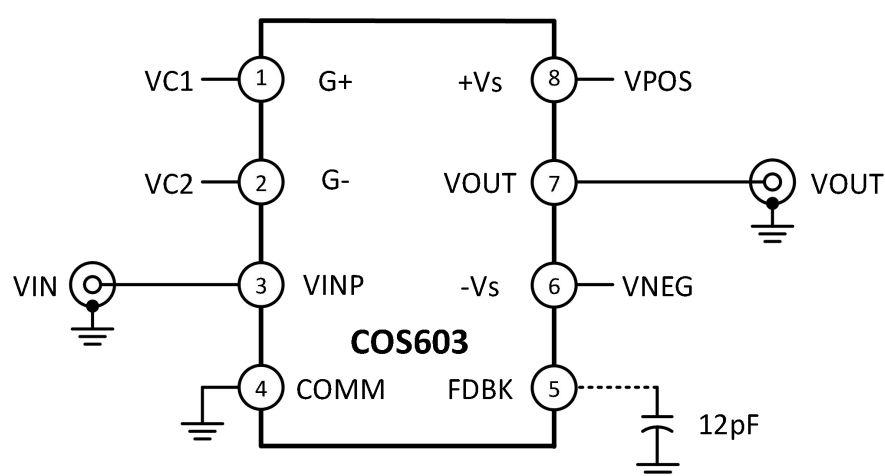
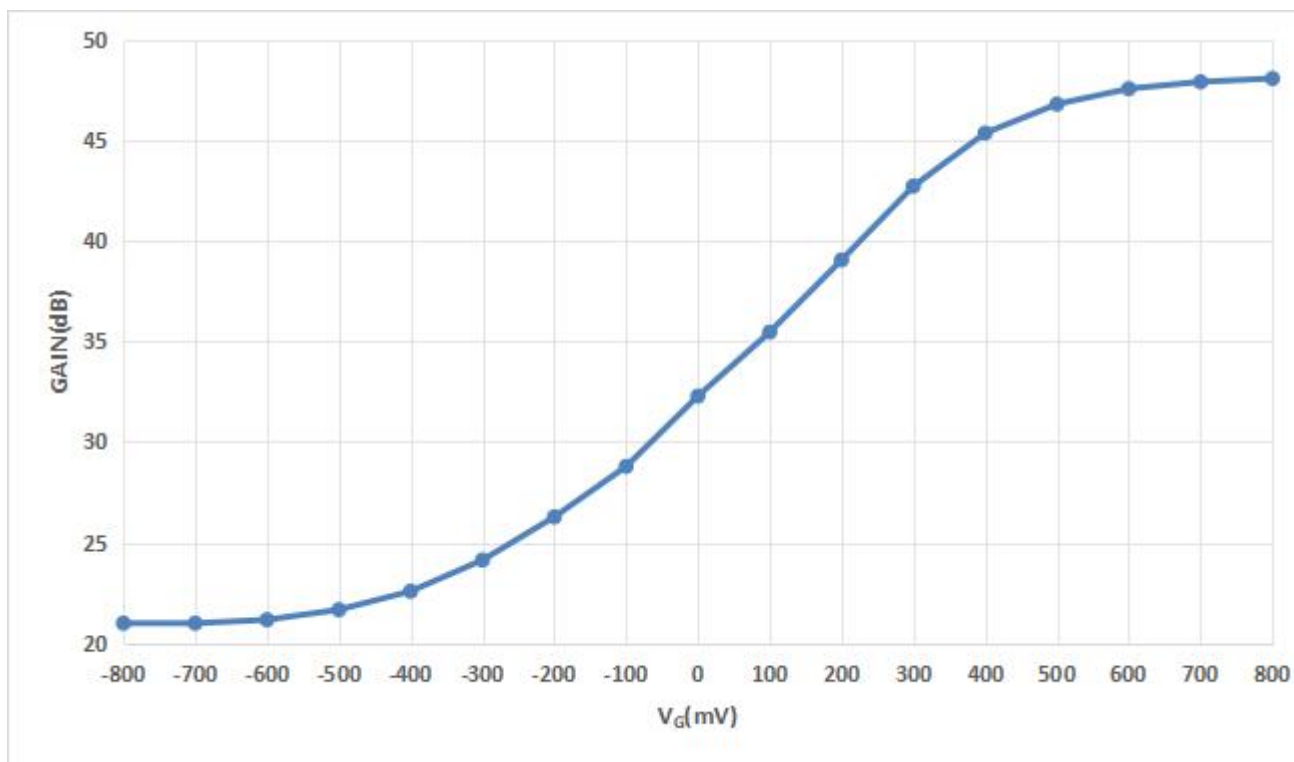
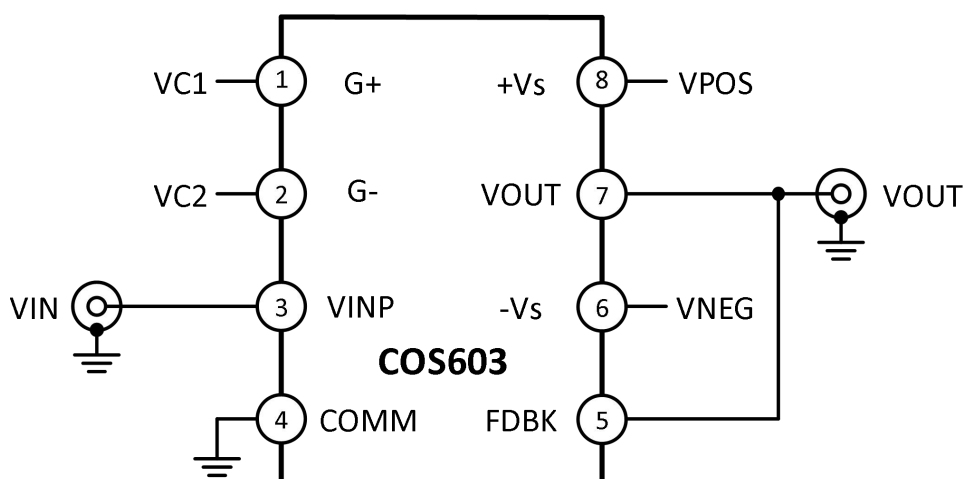
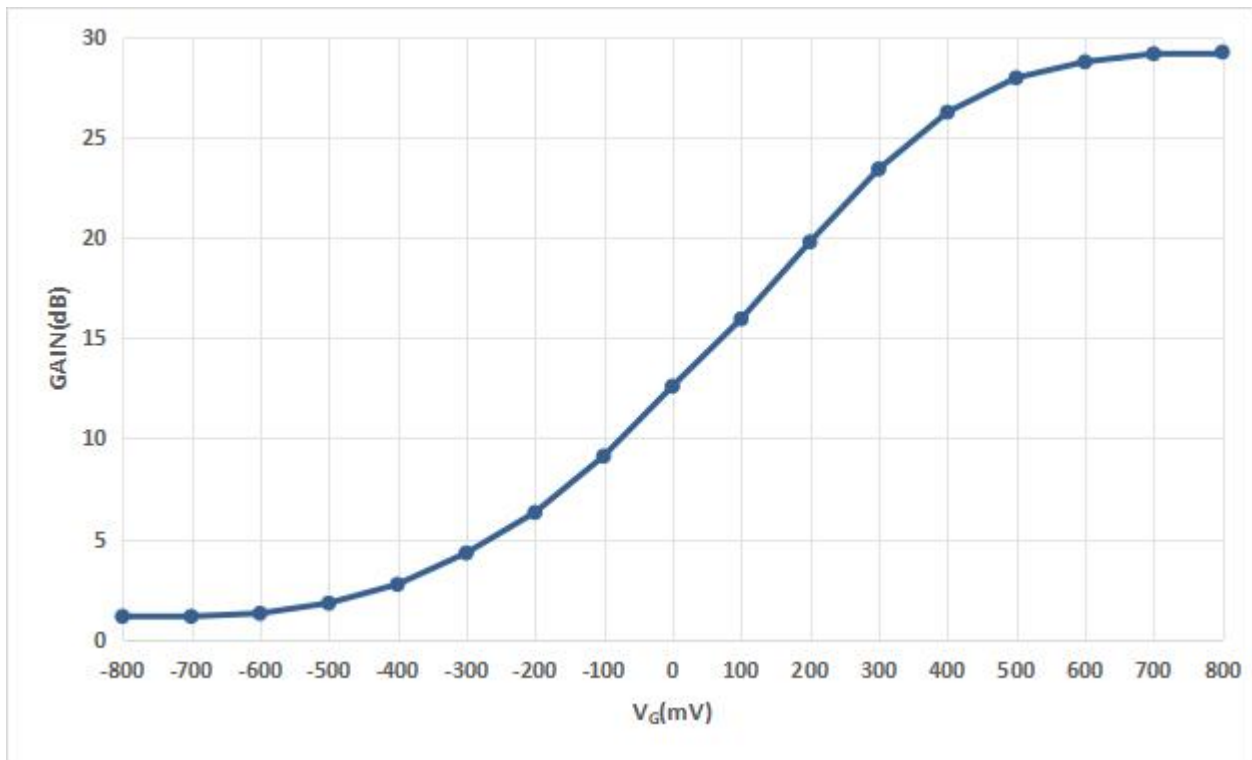

Figure 2. The High Gain Mode (default mode),
Figure 3. Gain vs. V_G for High Gain Configuration, 21dB to 48dB; 12MHz Bandwidth
Figure 4. The Low Gain Mode, V_{OUT} and FDBK are shorted
Figure 5. Gain vs. V_G for Low Gain Configuration, 1dB to 28dB; 75MHz Bandwidth
There are three modes the user can program the gain of the COS603 output amplifier using Pin 5 (FDBK), as shown in Figure 2, Figure 4, and Figure 6.
(A) In the high gain mode, FDBK is unconnected as shown in Figure 2. The gain range is from 21dB to 48dB and a bandwidth of 12MHz as shown in Figure 3. An optional C_{FB} capacitor can be used to extend the frequency response in this default mode.
(B) In the low gain mode, V_{OUT} and FDBK are shorted as shown in Figure 4, the gain range is lowered to 1dB to 28dB as shown in Figure 5.